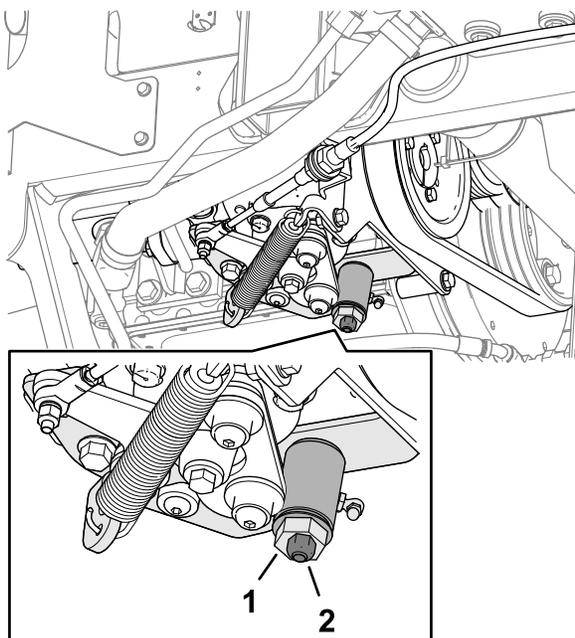

Figure 72
3. Loosen the locknut on the traction adjustment cam (Figure 72).